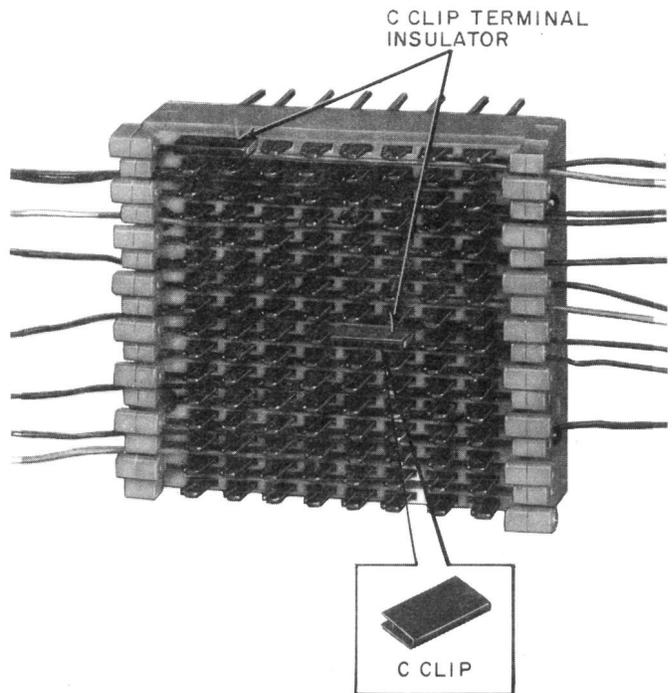

Fig. 5—Protection of Terminal Punchings—Special Service Lines—C Clip-Terminal Insulator as Used on 66G or 78A1 Connecting Block
4.04 On ESS distributing frames equipped with 66G, 66H, or the 78-type (quick connect) connecting blocks, terminals associated with special service lines are protected and identified by the use of C or D clip-terminal insulators (Fig. 5 and 6). These insulators are red plastic clip-on type to protect both tip and ring terminals. One insulator is used to protect each pair. The C or D clip-terminal insulators are used as follows:
- (1) C clip-terminal insulator for use on 66G or 78A1 connecting blocks (Fig. 5)